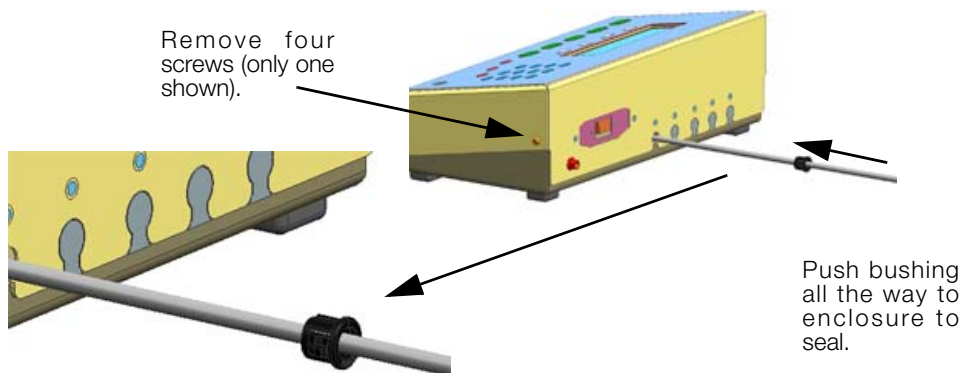

Figure 2-4. Use Plastic Bushings
1. Open the cover assembly by removing the four screws (only one shown in Figure 2-4).